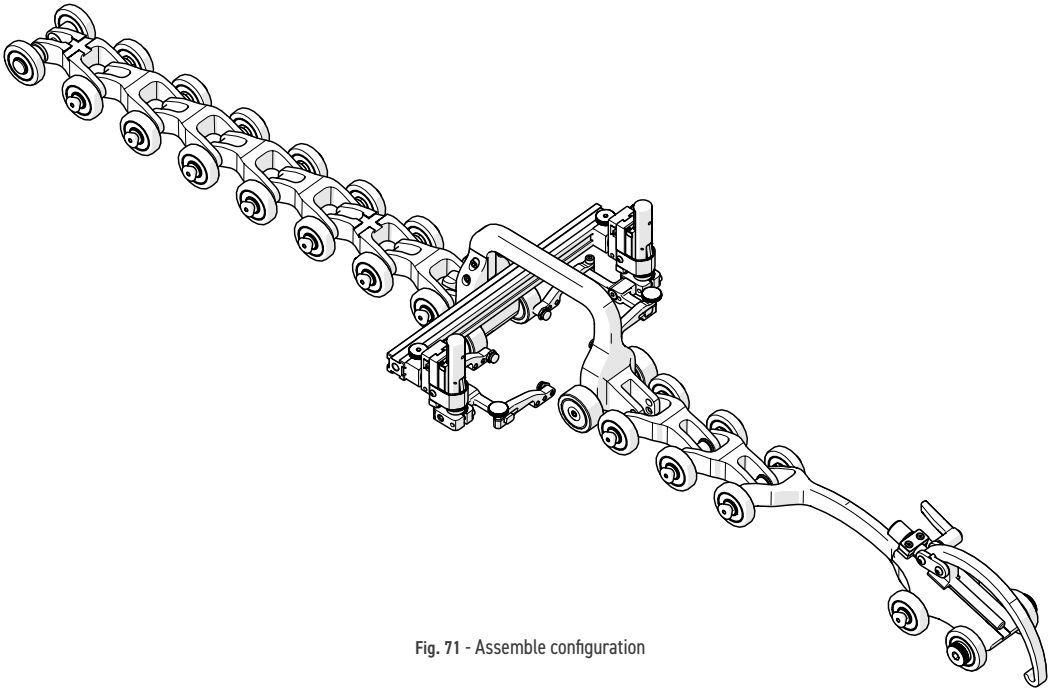

Fig. 71 - Assemble configuration
4. On a flat surface, connect the appropriate number of links (see *Chain Connection on page 11*) as indicated on the **ROTIX** setup chart. Arrange the link setup so the buckle and catch link will be 180° opposite the scanner body (Fig. 71).